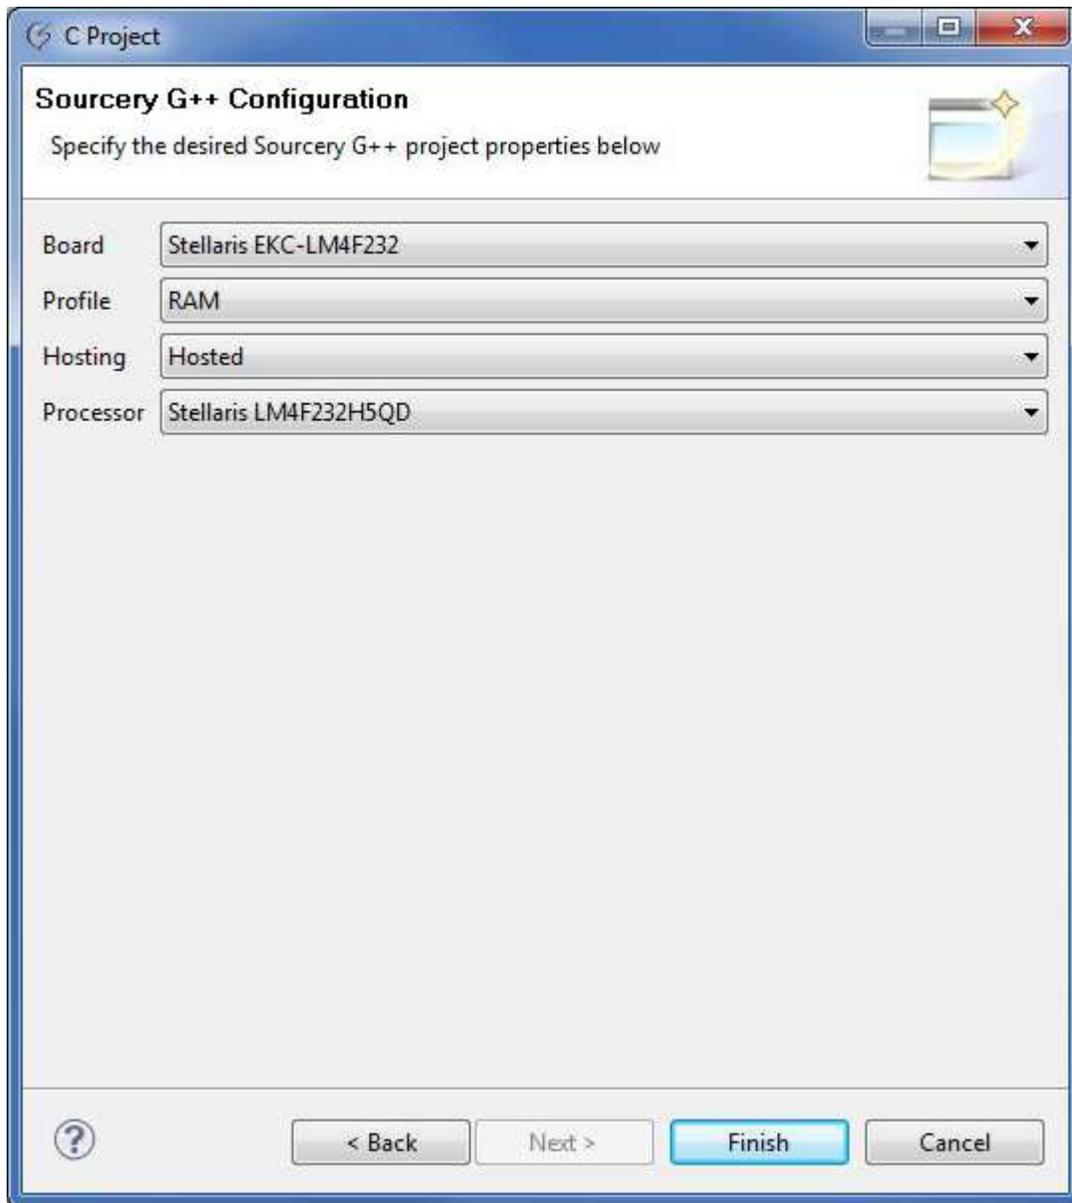

Figure 10.
5. The Sourcery G++ Configuration dialog box appears. From this dialog box choose the device used for the project (see Figure 10). Choose the device from the Board menu, or keep the default Tiva option.